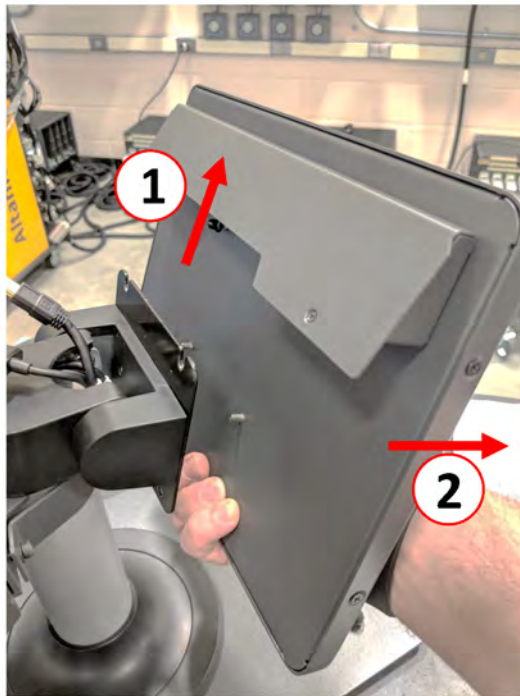

Figure 16-35 Remove Monitor
- Securely grip the touch monitor and slide it upwards until the fasteners have cleared the top mounting slots and pull forward to remove the touch monitor from the mounting bracket (refer to Figure 16-35).